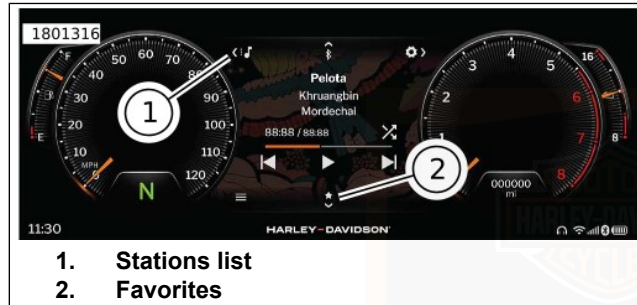

Figure 74. Stations List and Favorites
See Figure 74. A list of available stations can be viewed by selecting the stations list icon (1).
2. See Figure 74. Press favorites (2) on screen or Navigate down button on LHCM.